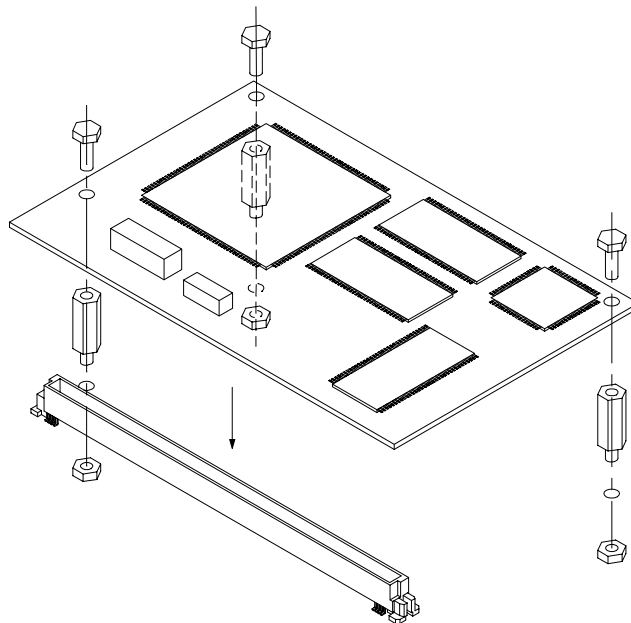

Fig. 12-2 CARD-E09A attachment
- (1) Insert the male ends of the hexagonal pillars into the three holes in the motherboard, and fasten with the nuts.
- (2) Next, as shown in Fig. 12-2, plug the CARD-E09A into the 240-pin connector.
- (3) Fasten the three screws.
Fig. 12-2 shows the attachment.